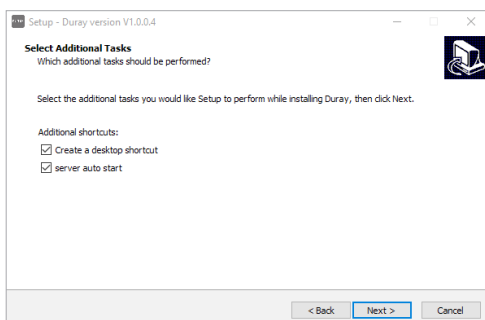

Figure 7
e) Set whether to create a desktop shortcut and server auto start, click the “Next” button after completion, as shown in Figure 7: